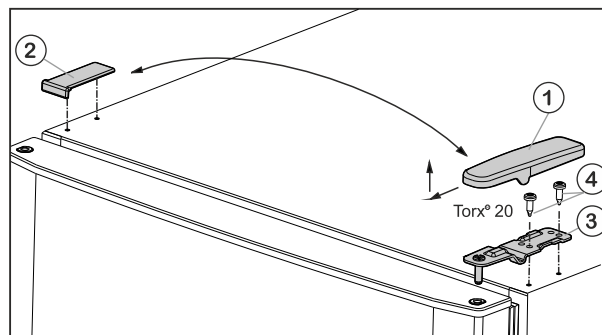

Fig. 6
- ▶ Pull the cover Fig. 6 (1) forwards and upwards.
- ▶ Lift off the cover Fig. 6 (2).
- Unscrew top bearing block *Fig. 6 (3)* (2x Torx® 20) *Fig. 6 (4)* and lift off in upward direction.
- Install the upper bearing block *Fig. 6 (3)* on the new hinge side and in the door.
- Screw in the upper bearing block **tightly (with 4 Nm)** (2x Torx® 20) *Fig. 6 (4)*. Use a cordless screwdriver if necessary.
- Slide on the cover *Fig. 6 (1)* on the opposite side from the outside and snap it into place.
- Slide on the cover *Fig. 6 (2)* on the opposite side from above until it snaps into place.